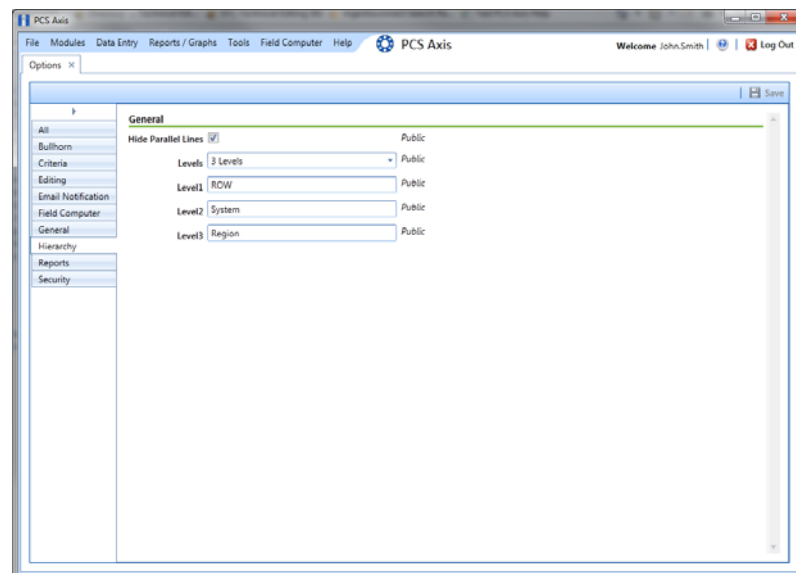

Figure 2-4. Hierarchy Levels
- 4 Click the **Hierarchy** tab to open hierarchy options page (Figure 2-4).